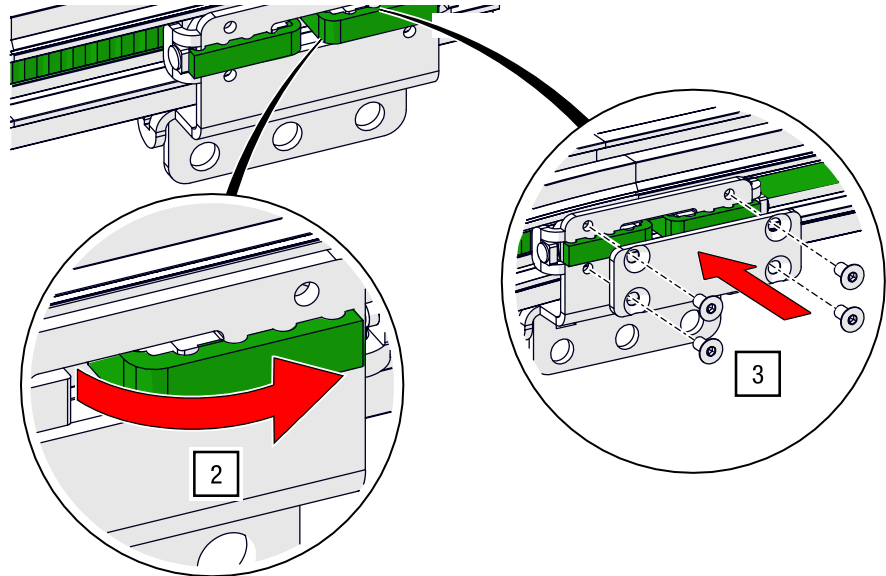

Fig. 84: Timing belt installation – Guide belt ends through the master runner and clamp
2. Pull the master runner over the two ends and pull the ends with needle-nose pliers through the released hole to the left and right outward (see Fig. 84).
3. Reassemble the clamping plate and clamp the timing belt ends (see Fig. 84).